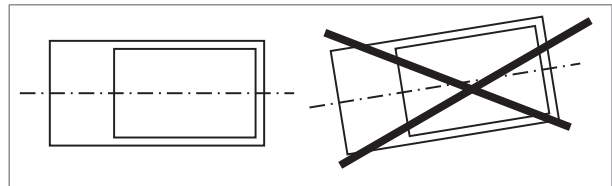

Figure 2 - A correct and incorrect horizontal orientation
- Install the heater horizontally without an inclination (figure 2).